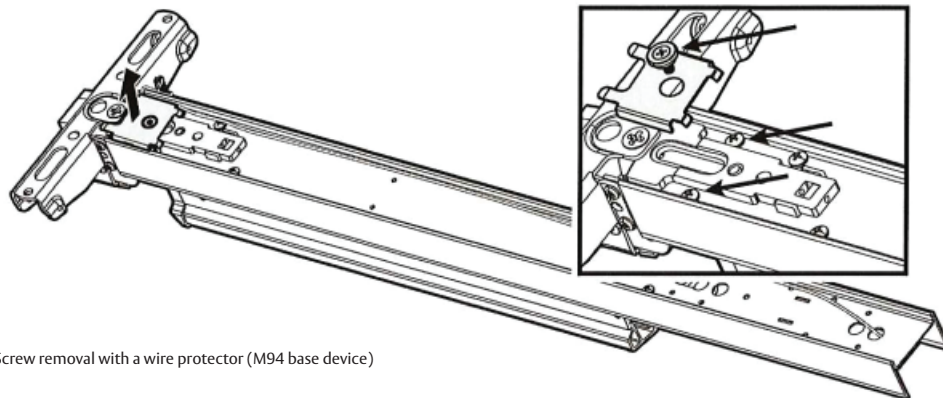

Figure 3 Screw removal with a wire protector (M94 base device)
- Remove the screws holding the trim slide, wire protector, and latch assembly in place. See Figure 3
- Remove the screws holding the trim slide, wire protector, latch assembly, and connecting slide in place. See Figure 3.